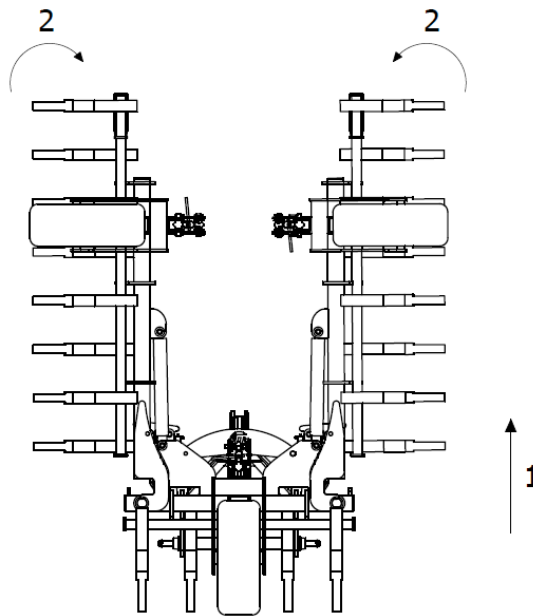

Fig. 4 Implement opening sequence: 1- raise the implement up to the maximum, 2- fold the side extensions into the “closed” position.
1. First, raise the implement as much as possible to be able to fold it correctly, avoiding the risk of the folding arms snagging on the ground during movement (Fig. 4).
2. Next, fold the implement side extensions hydraulically into the “closed” position to ensure that the side extension lock mechanism will unlock and allow the implement arms to be opened at a later stage. This operation is necessary each time the arms are opened (Fig. 4).